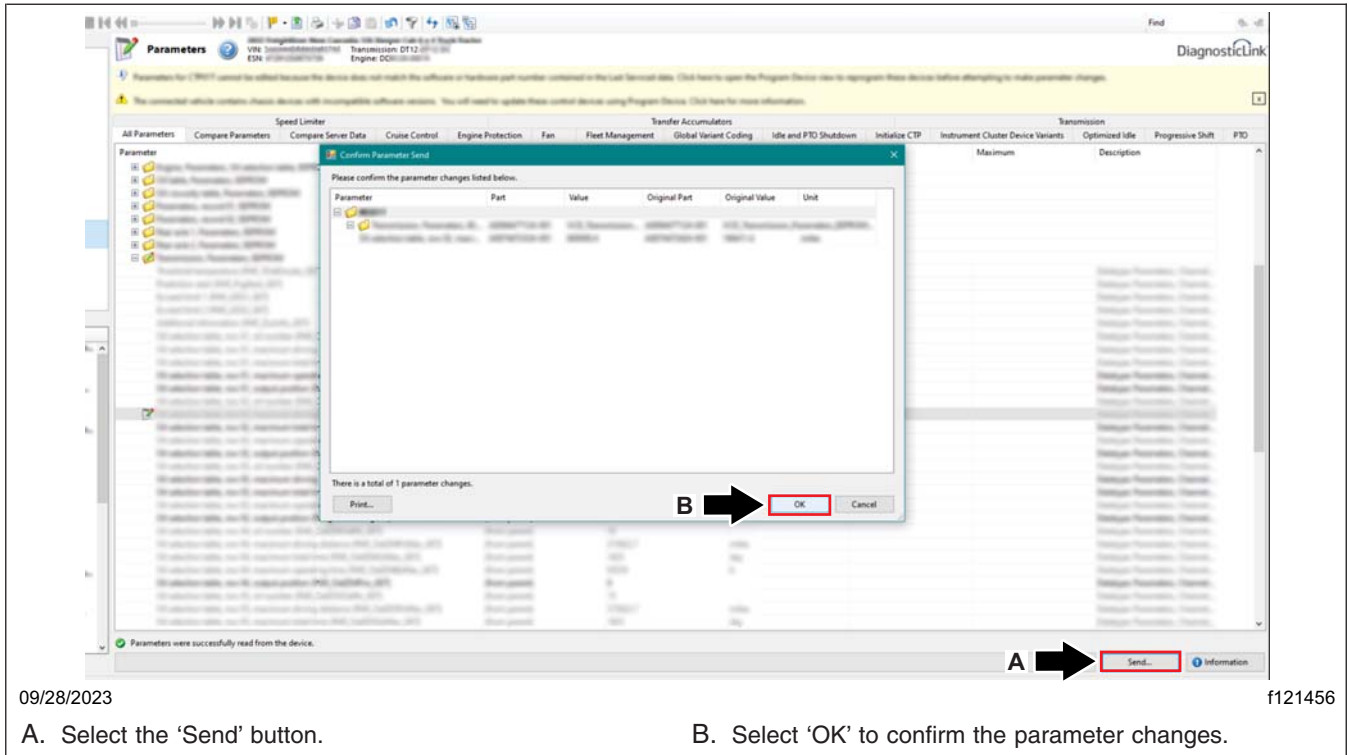

Fig. 91, Writing the Parameter Changes to the Vehicle
38.15 Select the 'Send' button to write the parameter changes to the vehicle. A window will open asking to confirm the parameter changes. Select 'OK.' See Fig. 91.